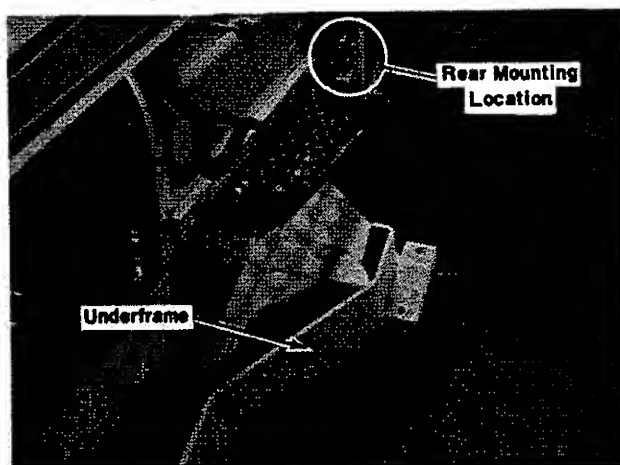
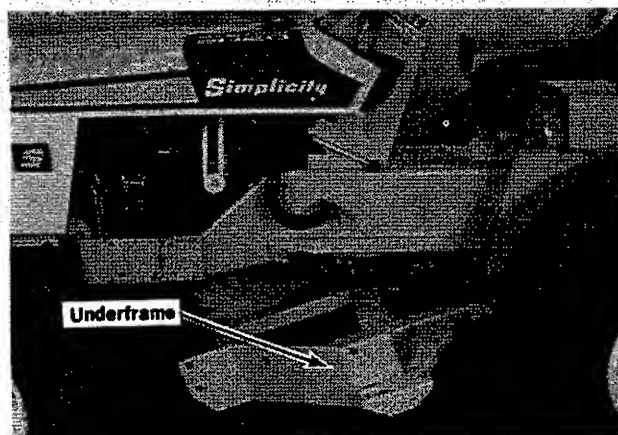

FIGURE 5
FIGURE 6
in the rear slotted hole, one (1) 1/2" x 2 1/4" bolt, LW & FW. Give bolt three or four turns so that it will stay. Next, install one (1) 1/2" x 2 1/4" bolt, LW & FW on the other side and at the same time reinstall on this side the three point hitch bracket previously removed, but do not install the other bracket at this time. Give this bolt three or four turns. At this time the under frame will appear as shown in Figure 5 and Figure 6.